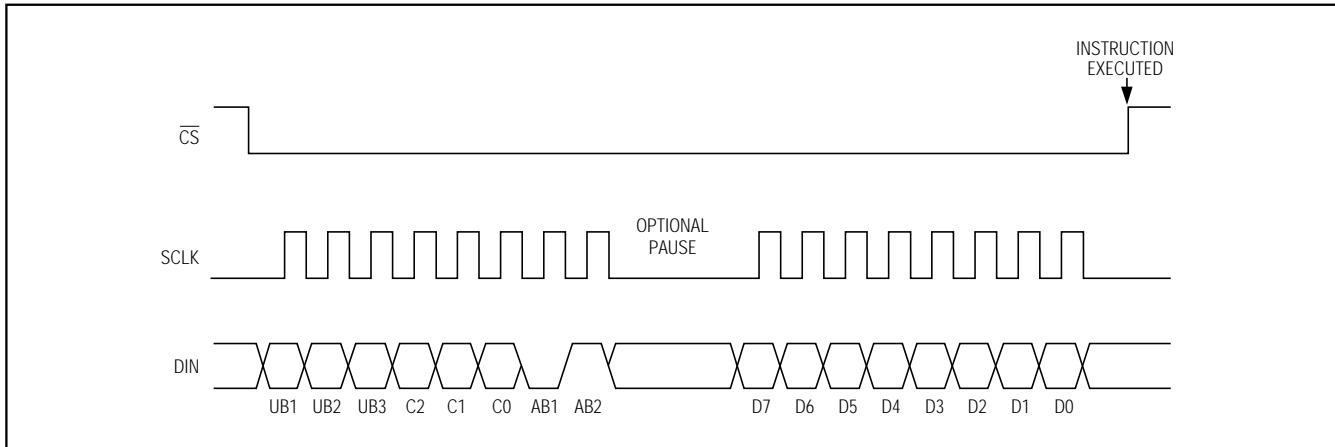

Figure 2. Serial-Interface Timing Diagram
The MAX550B interface is compatible with 3-wire SPITM, QSPITM, and MicrowireTM microprocessor (μ P) interface standards. An active-low chip select (CS) enables the input shift register to receive data from the serial input, DIN (Figure 2). Data is clocked into the input shift register
The control byte programs the DAC (Table 1). Table 2 lists the MAX550B's serial-input command format. The 16-bit input word consists of an 8-bit control byte and an 8-bit data byte. The 8-bit control byte is not decoded internally; every control bit performs one function. Data is clocked in starting with unassigned bit 1 (UB1), followed by the remaining control bits and the DAC data byte. The LSB (D0) of the data byte is the last bit clocked into the input shift register (Figure 2).